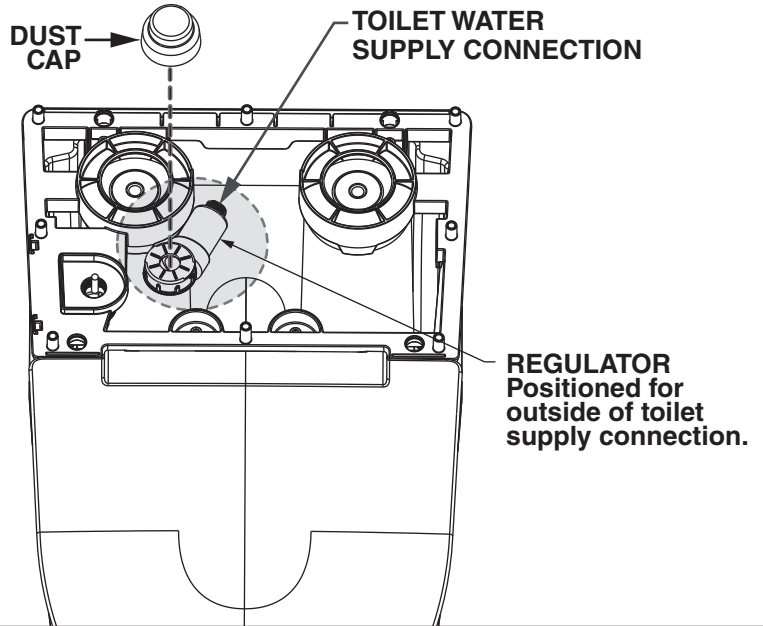

FIGURE 1
Connect water supply hose to connection in back of toilet for supply line outside of toilet. See Figure 1.
Remove Dust Cap by pulling straight up as shown in Figure 1.
- c. Disconnect water supply hose on Regulator end. (reference Figure 1 in Step 5.)